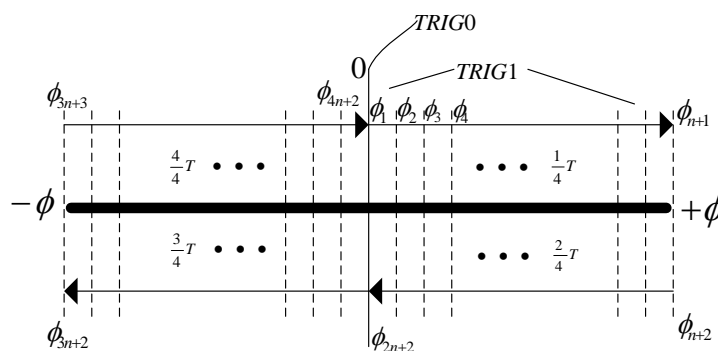

Figure 3-5 A period is divided into four parts
Generally, the scan angle is $2\Phi (\pm\Phi)$ and the incremental angle of angle marking pulse is δ . In order to simplify the process of calculating the real-time scan position of the MEMS mirror, divided a period (T) into four parts as shown in Figure 3-5.
The example that shown in figure 3-5 has 11 angle marking pulses (from TRIG1).
During this 1/4 cycle, the MEMS mirror will return to the zero position at the end. However, only the angle marking pulse will be output at this period. In this 1/4T, there are also N+1 angle marking pulses signal. In figure 3-5, the number of angle marking pulse (TRIG1) is 11.
This 1/4 period is similarly to the first 1/4T. The angle marking pulse will be output when the MEMS mirror scanning an incremental angle of angle marking pulse, and the total number of the pulse during this 1/4 cycle is N. In figure 3-5, the number of angle marking pulse (TRIG1) is 10.
At the end of this 1/4 cycle, the MEMS mirror will return to the zero position. It also means that a new period will start. During this time, the angle marking pulse will keep outputting and the total number of the pulse is N. In figure 3-5, the number of